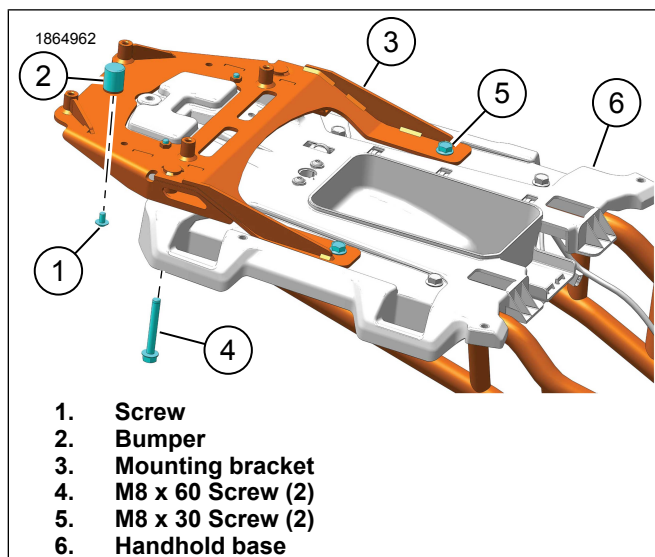

Figure 8. Mounting Bracket
5. See Figure 8. Install bumper (2) and screw (1) to mounting bracket (3).
- a. Tighten screw (1).
- c. See Figure 8. Tighten screws (4, 5).